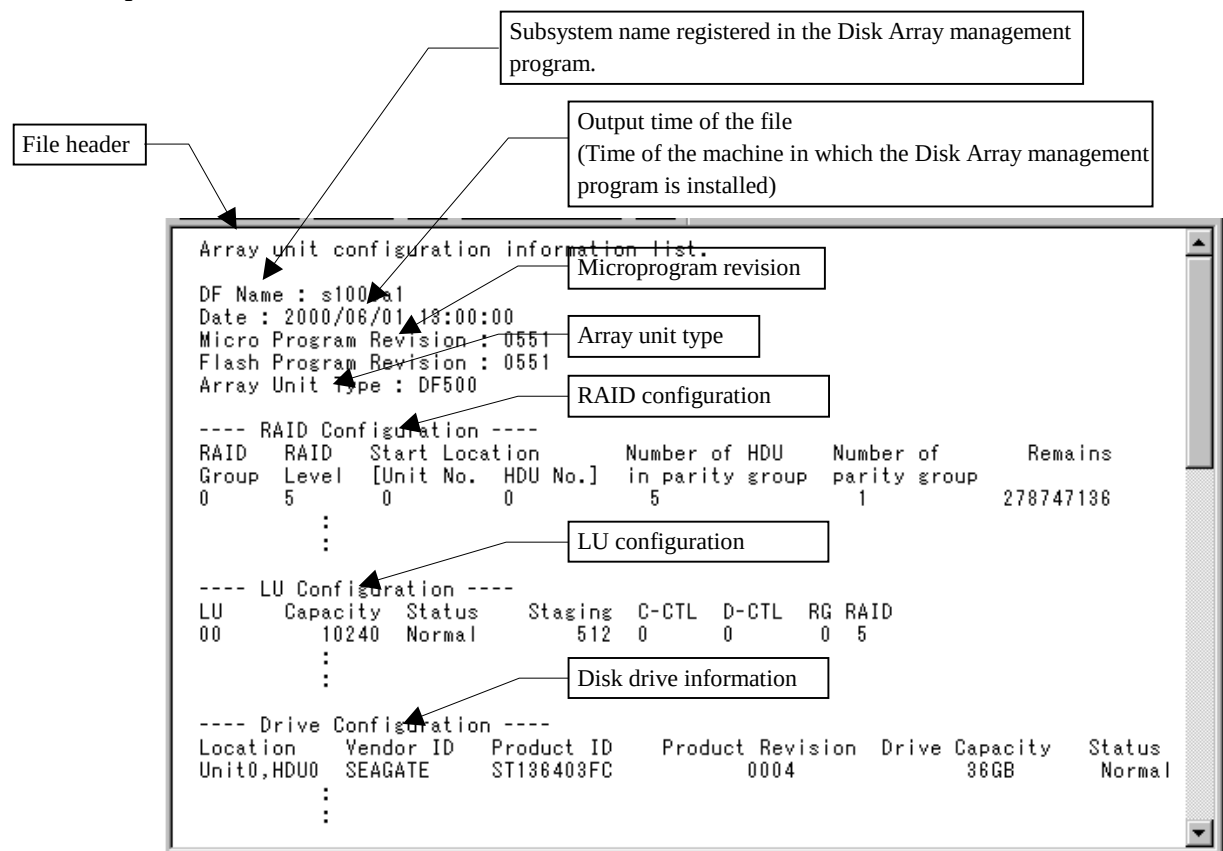
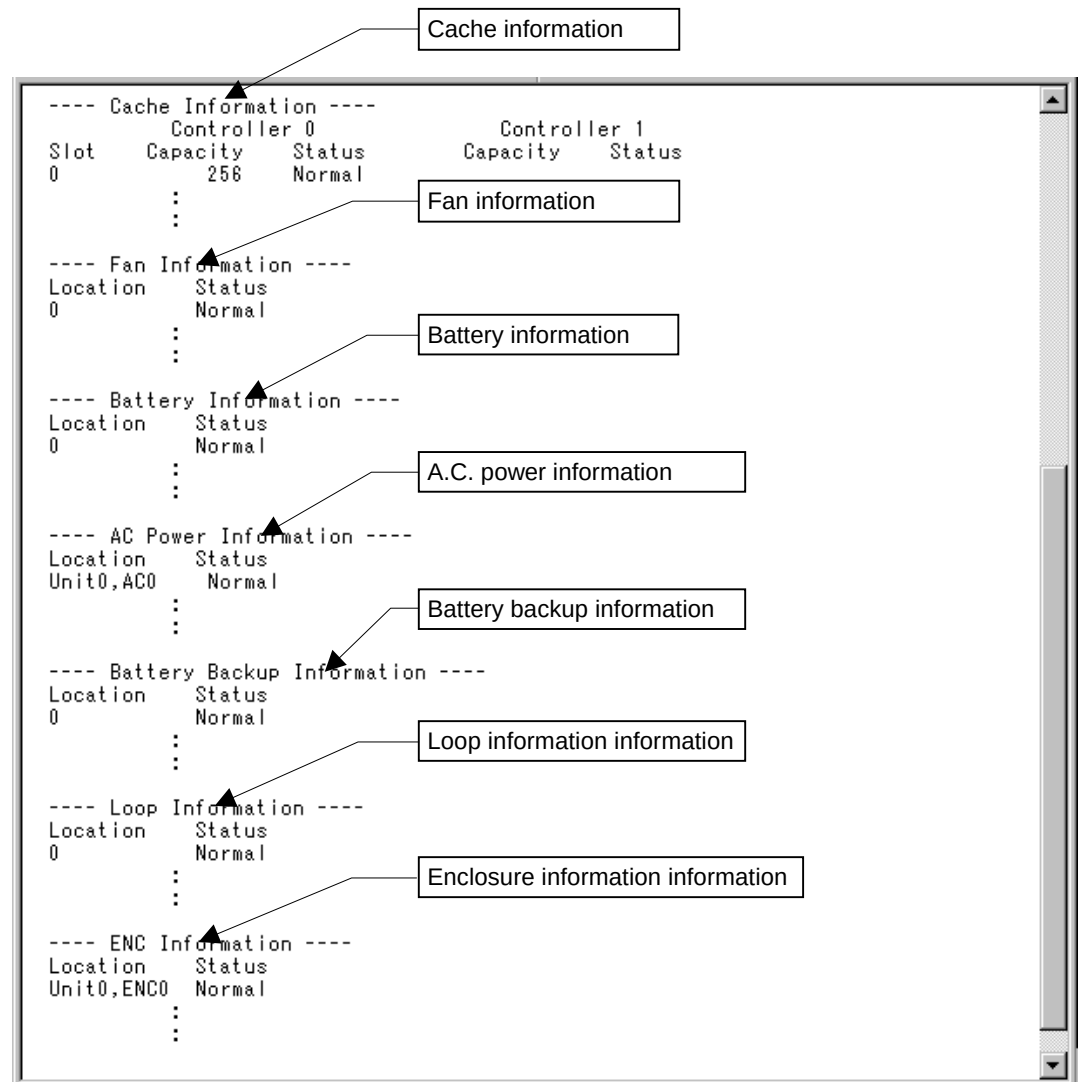

**Figure 2.6.6 Outline of the Format of
**Figure 2.6.7 Outline of the Format of
Open the file output in (2)-(6)-(ii) with an appropriate editor. The format of the file consists of the following items. Outline of the file structure is shown in Figure 2.6.6 and Figure 2.6.7.